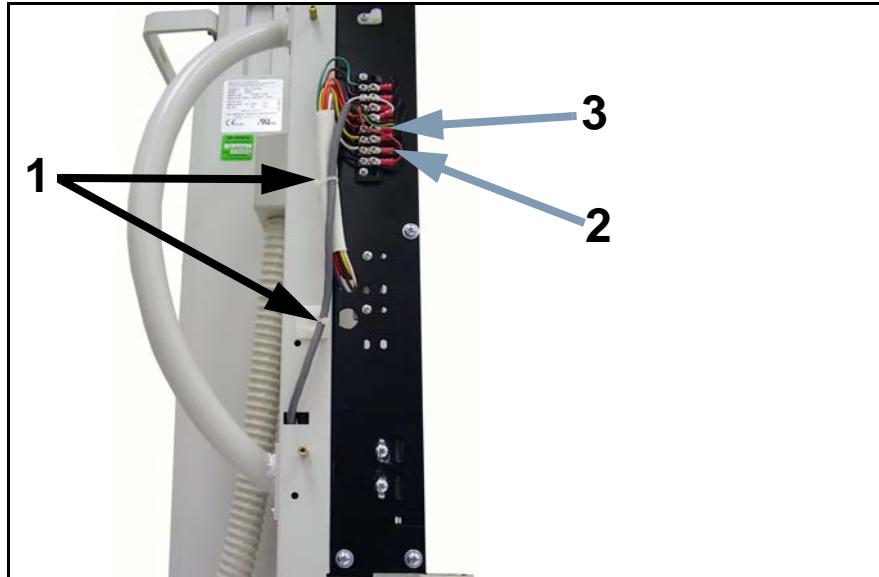

Figure 5-6. PBL Bracket Screws
- 9 Cut cable ties (1 in Figure 5-6).
- 10 Disconnect wires (2) from terminal (3).